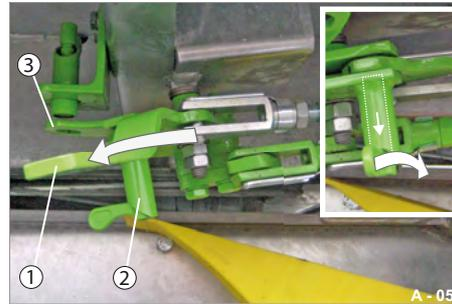

Fig. 53 Position for pendulum mode:
- ▶ Turn the lever of the locking pin (Fig. 53/2) so the lever (Fig. 53/1) of the central locking system is released.